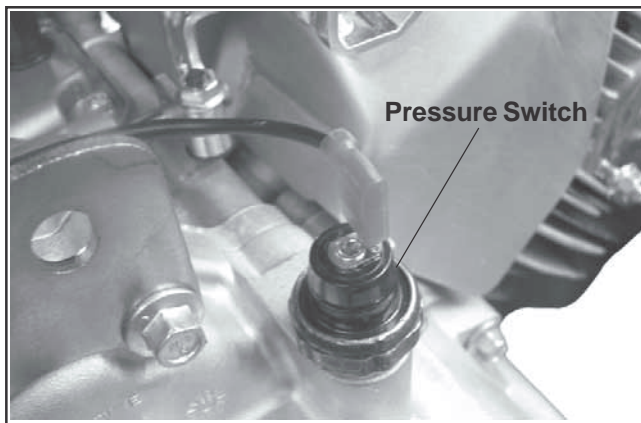

Figure 6-12. Oil Sentry™ Pressure Switch.
Some engines are equipped with an optional Oil Sentry™ oil pressure monitor switch. See Figure 6-12. If the oil pressure drops below an acceptable level, the Oil Sentry™ will either shut off the engine or activate a warning signal, depending on the application.
The Oil Sentry™ pressure switch is installed in the closure plate pressure port. See Figure 6-12. On engines not equipped with Oil Sentry™ the installation hole is sealed with a 1/8-27 N.P.T.F. pipe plug.
2. Install the switch into the tapped hole in the closure plate. See Figure 6-12.